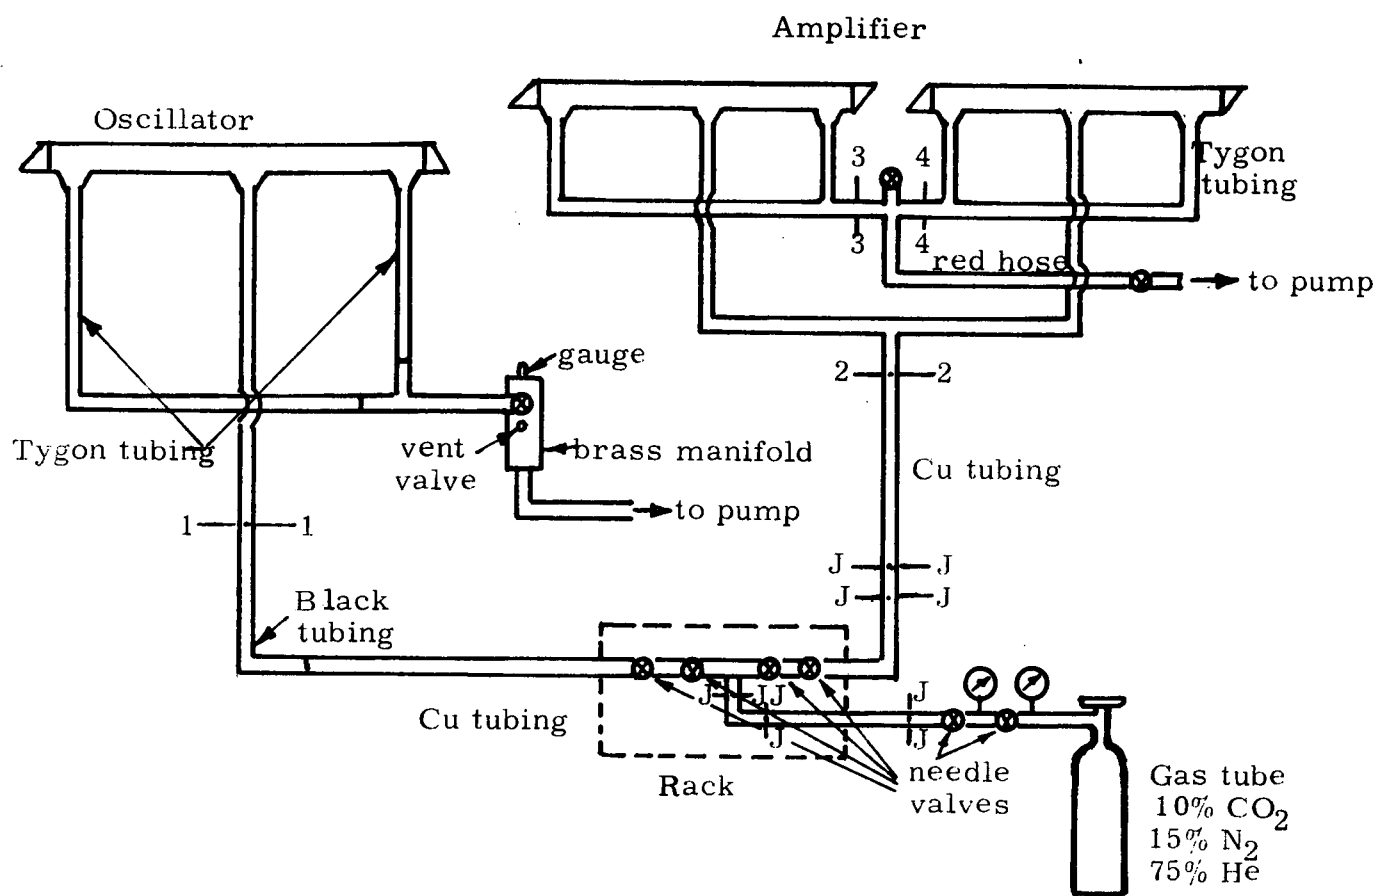
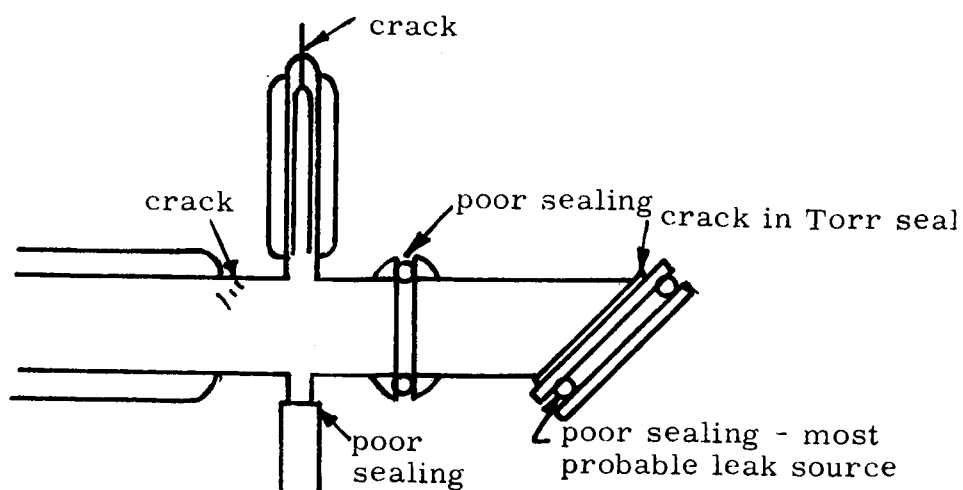

Figure 1. Vacuum system
Figure 2. Probable leak sources at the Brewster ends
B. Vacuum system (see figure 1)
- a. Close off the connecting line from the gas supply by clamping the black hose to the laser oscillator (1. in Fig. 1) and the transparent one to the amplifier (2. in Fig. 1). Have the two close off valves closed. If the pressure goes down to 200 micron: open one and then the other to determine where the leak is. The most probable leak sources are the soldered copper joints, (J in Fig. 1). Resolder the joints using the small torch.
- b. If the leak is not found by the previous arrangement, close off the connecting valve (at the side of the bench) for the amplifier. If pressure goes down, find out which of the two amplifiers is leaking by closing off the appropriate red thick vacuum tube (3 and 4 in Fig. 1). The most probable source of leak is at the Brewster ends (see Fig. 2). Check this by the following procedure: